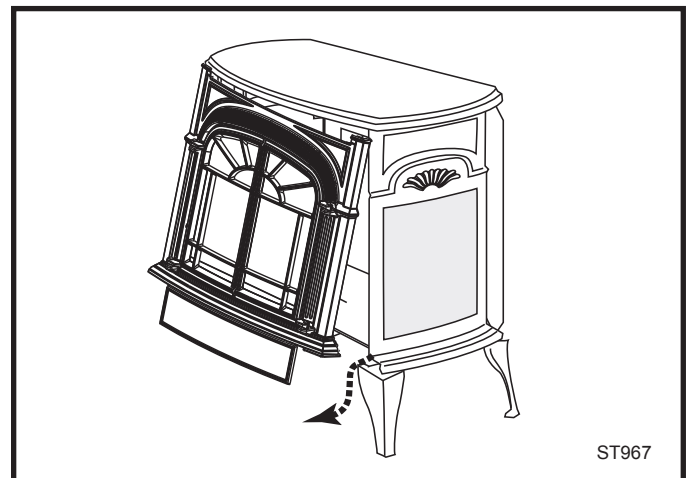

Fig. 81 Remove the stove front.
2. Lift the Stove Front up and then swing the bottom out to disengage it from the heater shell. (Fig. 81)
1. Remove the Front, Glass Frame and Glass Panel. (Figs. 81, 82) Remove the old gasket. Use a razor blade to separate the glass and gasket from the frame, and to clean the glass of any remaining cement or bits of gasket. Use a cold chisel if necessary.